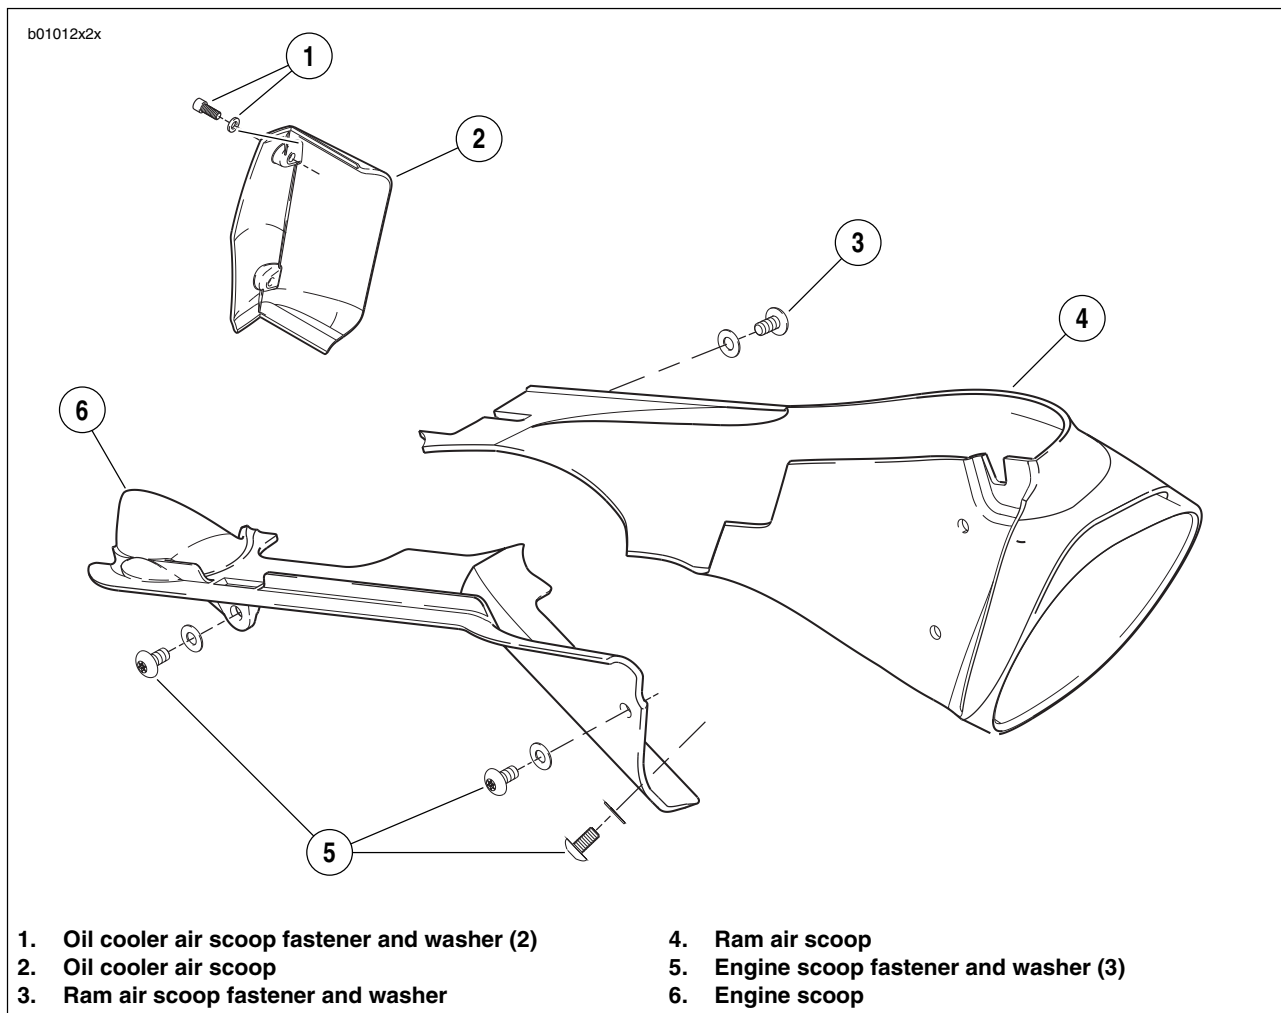

Figure 2-112. RAM Air Scoop, Engine Shroud, Oil Cooler
1. See Figure 2-112. On left side of bike, locate ram air scoop (4).
2. Remove three ram air scoop fasteners (3).
3. Remove ram air scoop (4).
1. See Figure 2-112. Position ram air scoop (4).
2. Install ram air scoop (4) with three fasteners (3). Tighten to 12-36 **in-lbs** (1-4 Nm).
1. See Figure 2-112. On right side of bike, locate engine shroud air scoop (6).
2. Remove three engine shroud air scoop fasteners (5).
3. Remove engine shroud air scoop (6).
1. See Figure 2-112. Position engine shroud air scoop (6).
2. Install engine shroud air scoop (6) with three fasteners (5). Tighten to 12-36 **in-lbs** (1-4 Nm).
1. See Figure 2-112. On left side of bike, locate oil cooler air scoop (2).
2. Remove two oil cooler air scoop fasteners (1).
3. Remove oil cooler air scoop (2).
1. See Figure 2-112. Position oil cooler air scoop (2).
2. Apply LOCTITE 272 (red) to oil cooler air scoop fasteners (1) and tighten to 120-144 **in-lbs** (14-16 Nm).